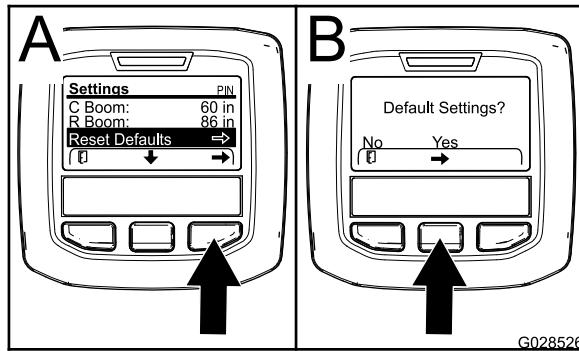

Figure 75
1. Press the center selection button to navigate to the Reset Default entry (Figure 75).
3. In the Default Settings screen, press the left selection button for No or the right selection button for Yes (Figure 75).